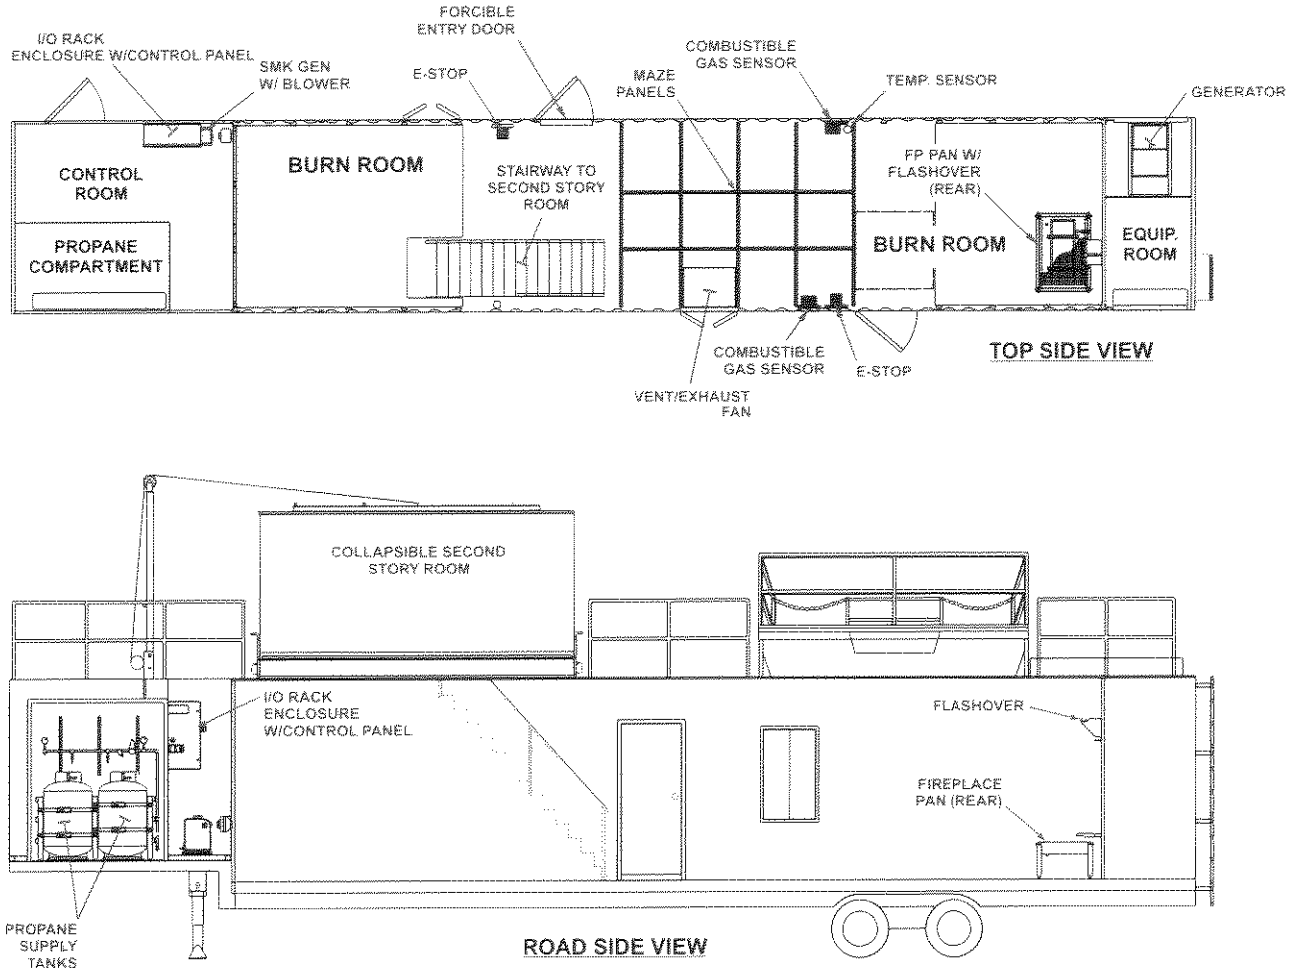
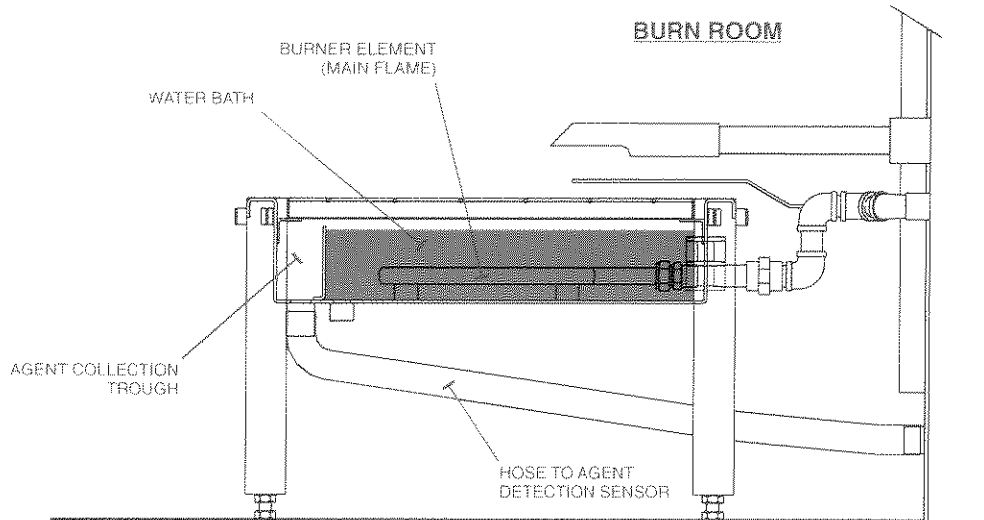

Figure 3-7 Trainer Setup (Internal)
Figure 3-8 Rear Fireplace Water Bath
7. With the winch pendant (9) carefully add enough belt slack (10) to be able to raise the leverage arm.
8. Be sure the end of the winch strap is properly hooked to the bracket that is bolted to the top of the roof section I- Beam (11).
THE END OF THE WINCH STRAP MUST BE PROPERLY HOOKED TO THE BRACKET THAT IS BOLTED TO THE TOP OF THE ROOF SECTION I- BEAM AS SHOWN IN FIGURE 3-7, ITEM (11).
9. At the leverage arm remove the pin by first removing the securing pin and then slide the main pin out (12).
11. Lift the leverage arm to the up-right position (13), insert the pin and lock it into position with the securing pin. (14 & 15). **WALK ON RIVETED AREA ONLY** while lifting leverage arm.
Refer to Figure 3-7 for Component Locations.
1. Fill the Rear fireplace water bath until it overflows (See Figure 3-7 for location and Figure 3-8 for detail). When using the Stove prop be sure to fill range top with water.